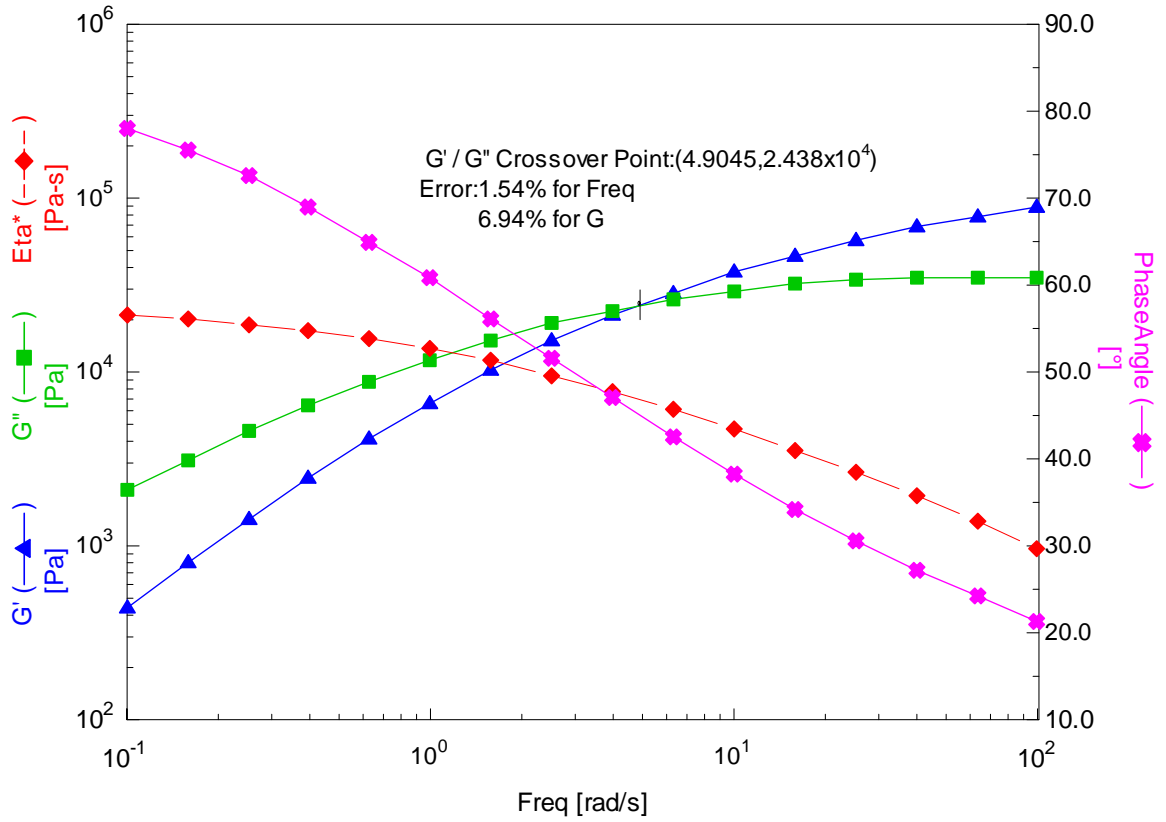

Figure 5-10. Typical Results of PDMS Tests
6. Set up the plot to show  $G'$ ,  $G''$ , viscosity, and phase angle. The displayed data should look similar to that shown in Figure 5-10.